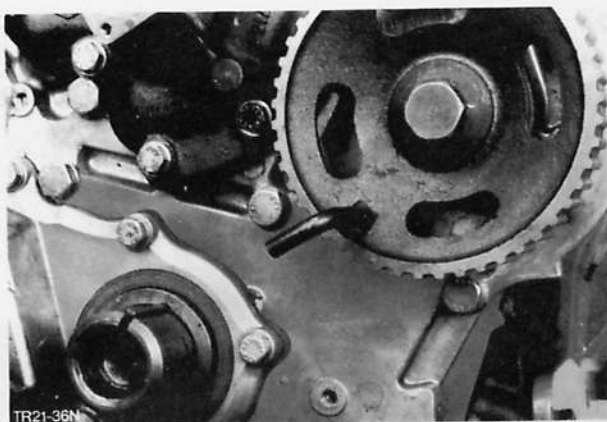

Fig. 50. Lock camshaft toothed belt gear using Special Tool 21-016
21. Lock camshaft toothed belt gear with Special Tool 21-016, Fig. 50. Unscrew bolt and press off gear using two levers.